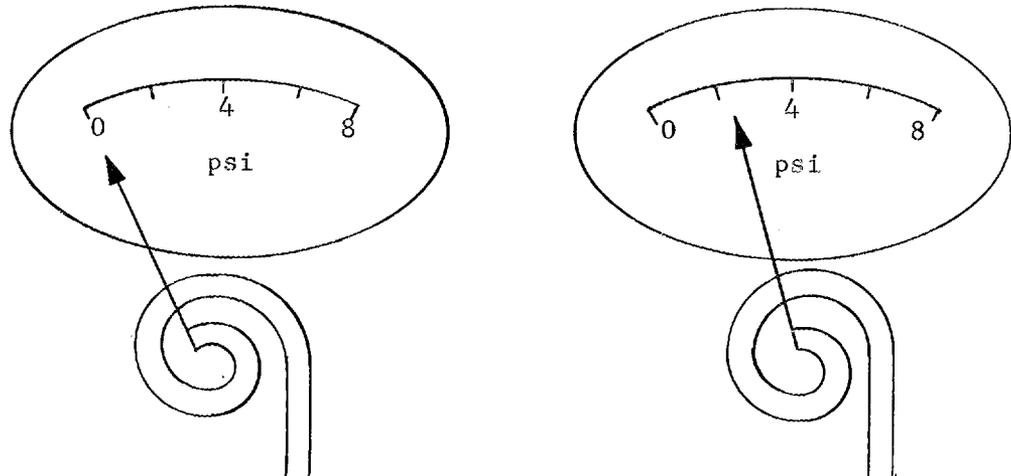

Fig. V-58. Bourdon Gauge
14. The Bourdon pressure gauge is used extensively as a direct reading gauge. It makes use of a partially coiled tube as shown in Figure V-58.